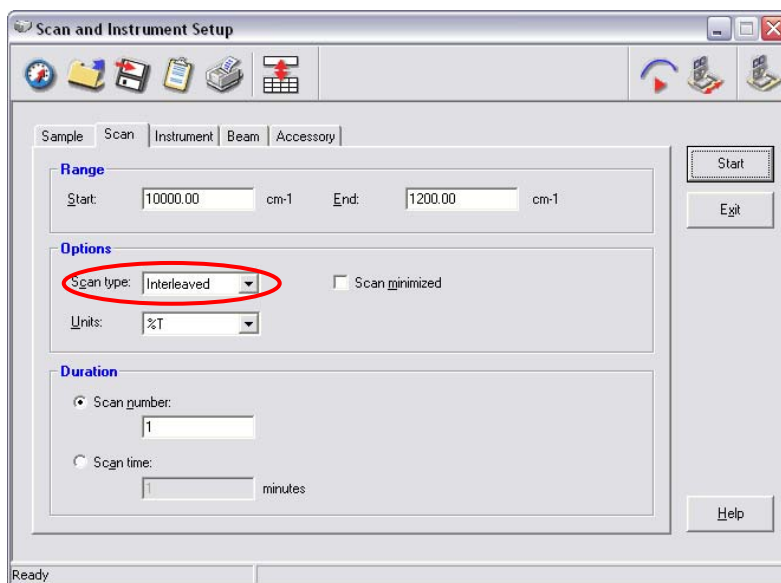

Figure 6 Selecting Interleaved mode
1. To use the Interleaved mode, where the Shuttle automatically collects a background before scanning the sample, set the Scan type to **Interleaved** on the Scan tab (Figure 6).